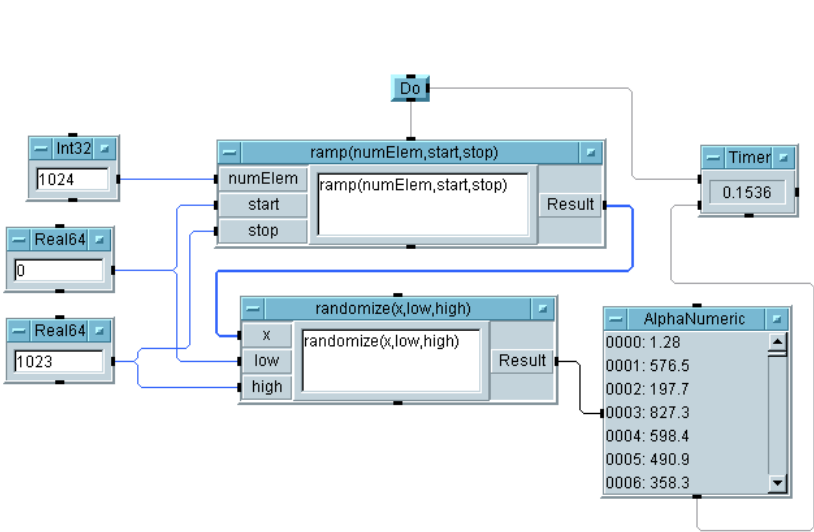
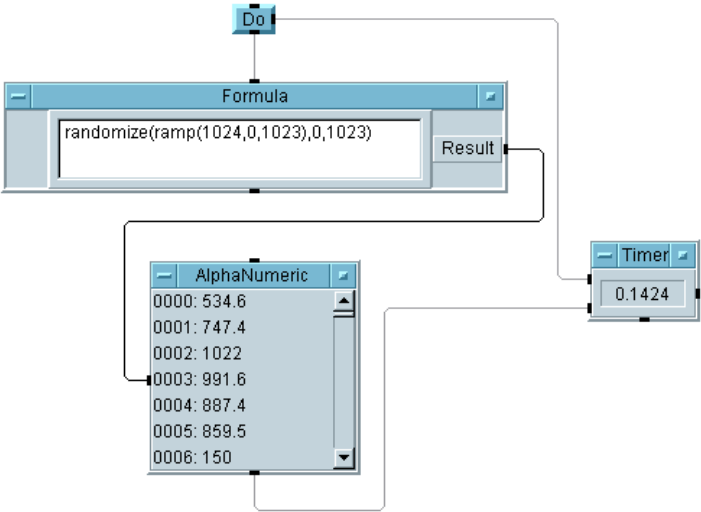

Figure 9-4. Function Calls without Optimization
Figure 9-5. Function Calls with Optimization
2. Nest function calls within other function parameter lists. For instance, in Figure 9-4, the function **randomize** uses the array generated by the function **ramp**. In Figure 9-5, the function call to **ramp** is nested in the call to **randomize**, resulting in slightly faster program execution.